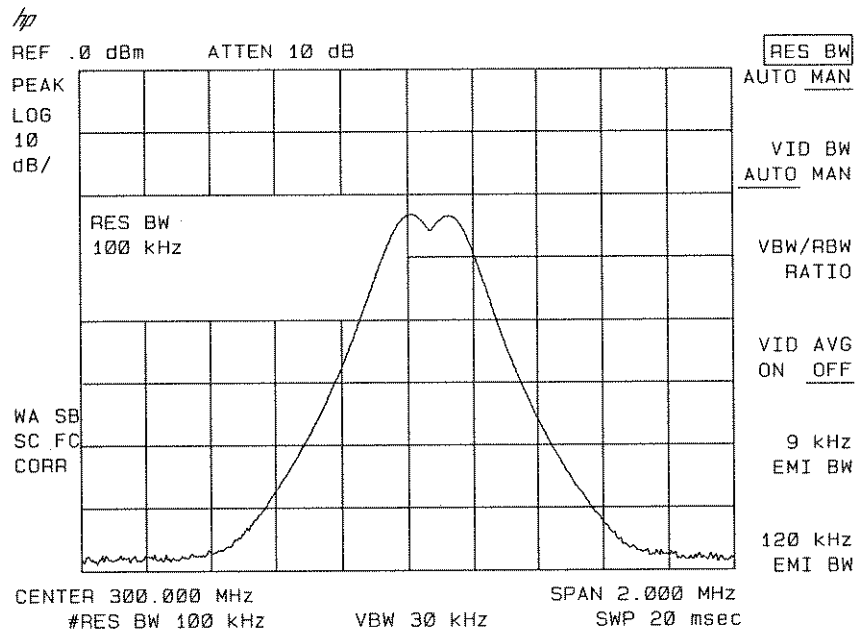

Figure 6-2. Resolving Signals of Equal Amplitude
Generally, to resolve two signals of equal amplitude, the resolution bandwidth must be less than or equal to the frequency separation of the two signals. A dip of approximately 3 dB is seen between the peaks of the two equal signals, and it is clear that more than one signal is present. See Figure 6-2.
4. Since the resolution bandwidth must be less than or equal to the frequency separation of the two signals, a resolution bandwidth of 100 kHz must be used. Change the resolution bandwidth to 100 kHz. Two signals are now visible as in Figure 6-2. Use the knob or step keys to further reduce the resolution bandwidth and better resolve the signals.